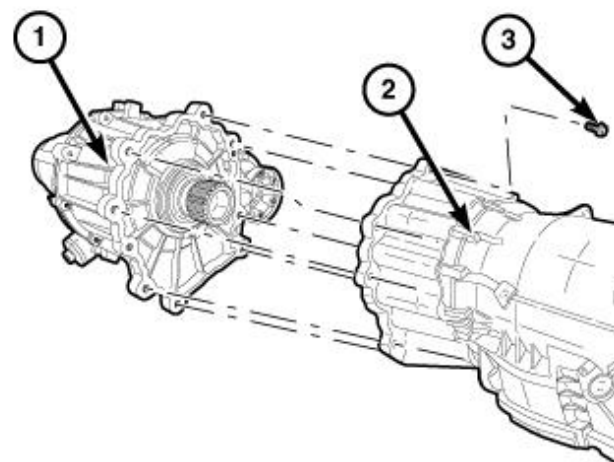

Figure 22 – Transfer Case Heat Shield
52. Remove the fasteners (1), and remove the heat shield (Figure 22).